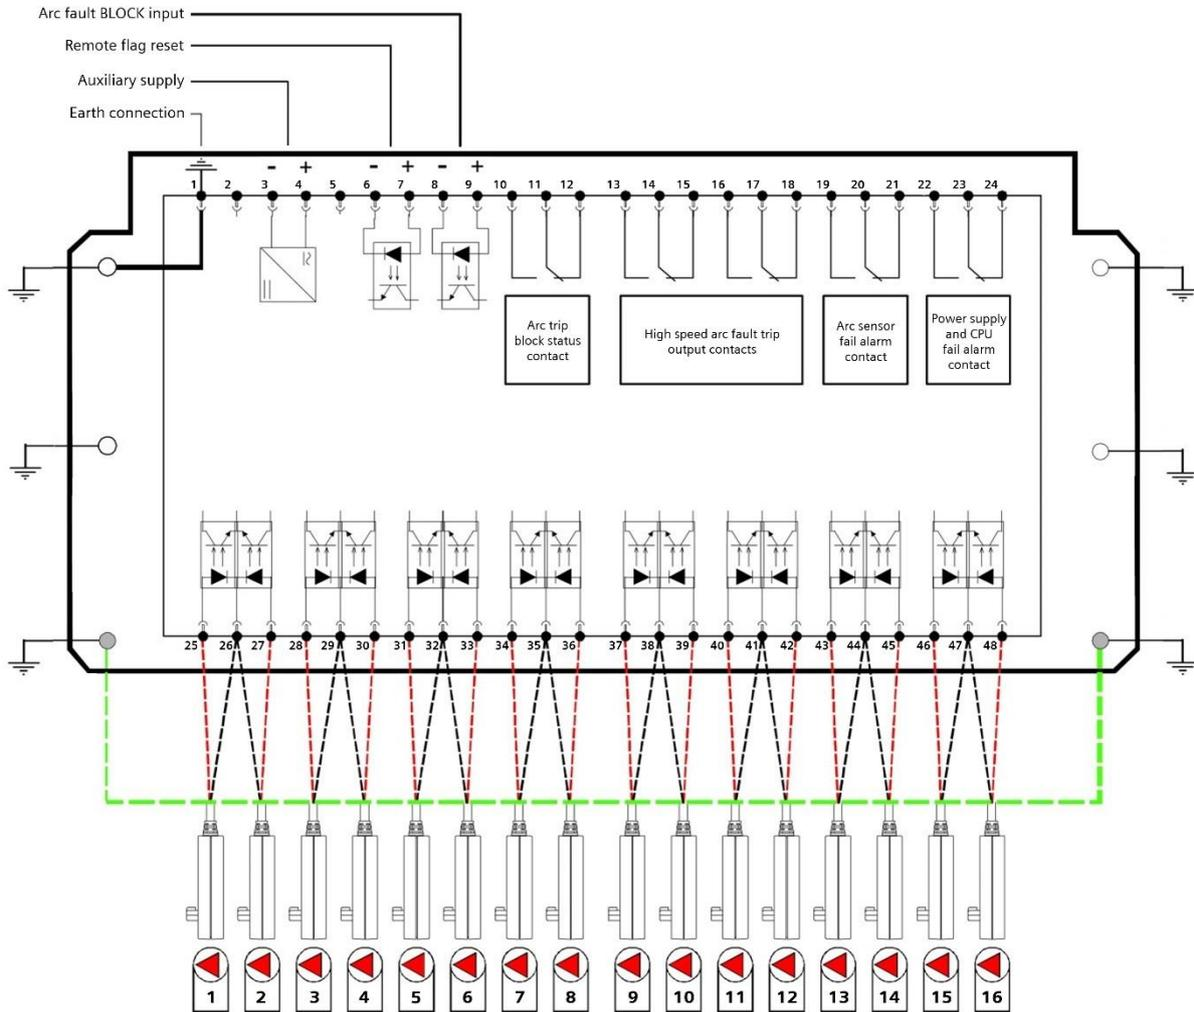

Figure 15: RA24 Connection Diagram
- Figure 15: RA24 Connection Diagram 12